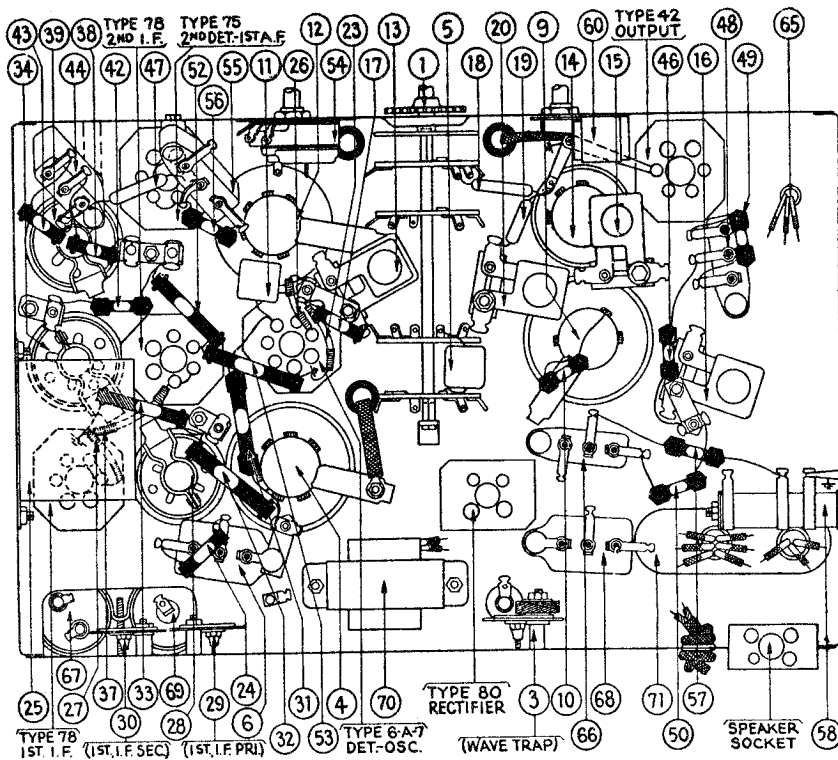

FIG. 4.—Bottom View of Chassis, Showing Parts, and Position of Compensating Condensers Located,—and Reached,—from Below Chassis.
The output meter is connected to the primary terminals of the Output Transformer. Set the signal generator of the Model 048 at 460 K.C.—the intermediate frequency of Model 44,—and adjust each of the I.F. compensating condensers in turn, to give maximum response in the output of the receiver. The location of the I.F. compensating condensers is shown in Figure 2 and Figure 4. Figure 2 shows the position of the compensating condensers of the 2nd, I.F. Transformer (34) and of the 3rd, I.F. Transformer (39). Each of these transformers has its dual compensating condenser mounted at its top, and accessible through a hole in the top of the coil shield. In the dual compensators, the Primary circuit is adjusted by the SCREW; the Secondary circuit is adjusted by the hex-head nut. The adjustment of the primary and secondary circuits of the 1st, I.F. Transformer (28) is made by means of two single compensating condensers (20) and (29) mounted underneath, and at the rear of the chassis and accessible from the rear. They are shown in Figures 2 and 4.
Turn the Wave-Band Switch to Range 2, and adjust the Station Selector to 3.6 M.C. The "Antenna" connection between the Signal Generator and the receiver chassis must be removed for this adjustment. The output of the Signal Generator will be too great, otherwise. Adjust the compensating condenser (13) to give maximum response in the output circuit. This compensating condenser is located underneath the chassis and is not accessible from above. See Figure 4.
The Model 048 Set Tester is used again. Turn the Wave-Band Switch to Range 2, Station Selector to 1.5 M.C. Set the Signal Generator (Model 048) at 1500 K.C. (1.5 M.C.). The "Antenna" connection between the Signal Generator and the chassis should be restored. Adjust compensating condenser (20), located underneath the chassis, (Figure 4). Adjustment is possible from the underside of the chassis.
Place the Wave-Band Switch at Range 1, and the Station Selector to 1400 K.C. Set the Signal Generator (Model 048) at 1400 K.C. Adjust the compensating condenser (15), which is located underneath the chassis. See Figure 4. This adjustment is possible from the underside of chassis.
With Wave-Band Switch at Range 1, and Station Selector at 520 K.C., set the Signal Generator of the Model 048 at 520 K.C., and adjust the compensating condenser (16), (Figure 4). This compensating condenser is mounted underneath the chassis, and is reached from below.